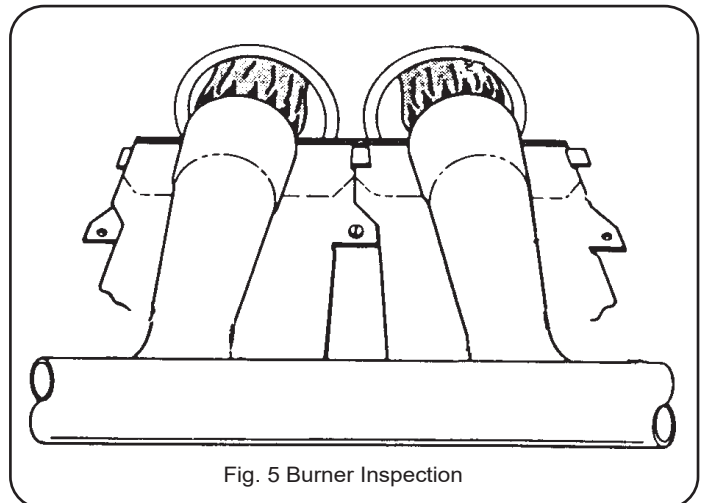

Fig. 5 Burner Inspection
7. After the flame ignites, visually inspect the burner assembly to ensure that the flame is drawn directly into the center of the heat exchanger tube, as shown in Figure 5. The end of the flame will be out of sight around the bend of the heat exchanger tube. In a properly adjusted burner assembly, the flame color should be blue with some light yellow streaks near the outer portions of the flame.